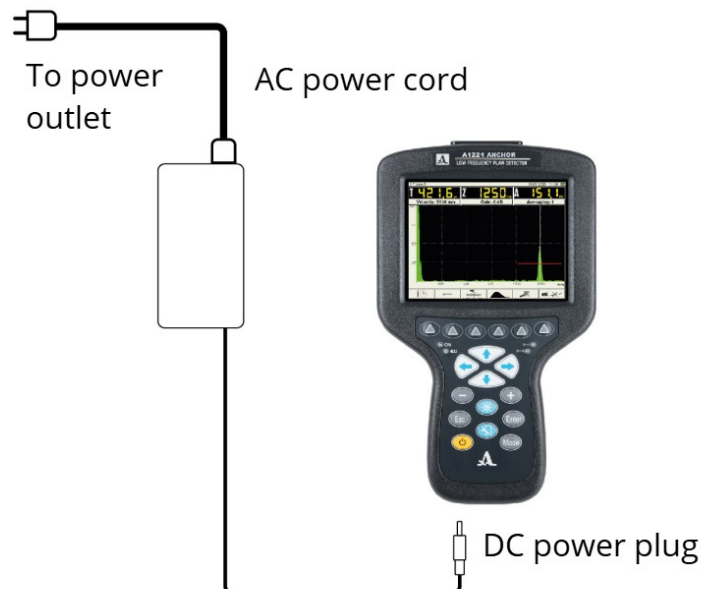

Figure 3: Connecting the charger/adaptor
1. On the A1221 ANCHOR, lift the rubber seal covering the DC adaptor connector on bottom of the A1221 ANCHOR (see Figure 3) and connect the DC power plug to the instrument